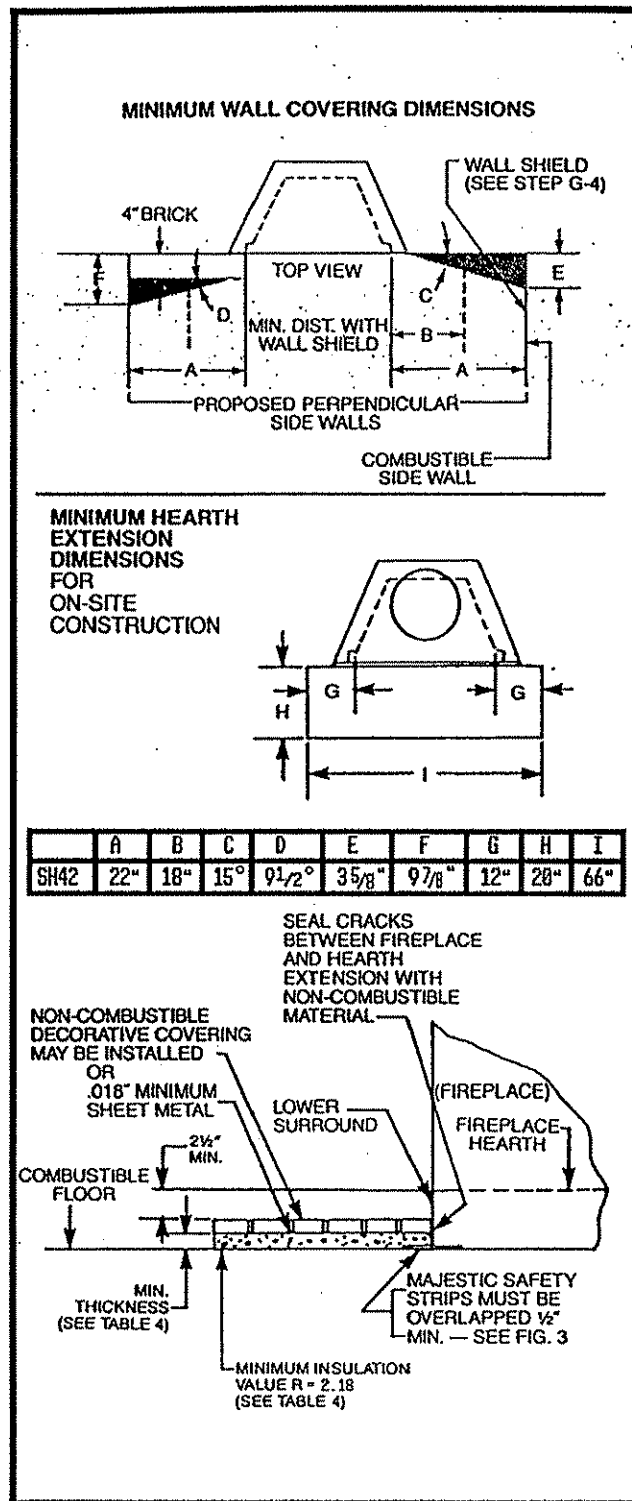

Fig. 23. Protection of adjacent combustible side walls and hearth extension dimensions.
A hearth extension is required to protect combustible floor construction in front of the fireplace. See Fig. 23 for minimum dimensions and mounting detail.
The hearth extension described in Fig. 23 must be constructed of a rigid insulation with a minimum (total)  $R_T$  value of 2.18. (See Table 4 for examples.) The overall height (above combustible floor), depth and width must be as indicated, with it centered to the fireplace opening. (See Fig. 23.)
The top of the insulation must be covered with a non-combustible decorative covering or a piece of .018" minimum sheet metal, to protect the hearth extension material. (See Fig. 23.)
Secure the hearth extension to the floor to prevent shifting, using trim molding or other similar means at the three (3) outer edges. Seal the crack between the fireplace hearth and the hearth extension with a non-combustible material. (See Figs. 23, 24 and 25.)
**WARNING: HEARTH EXTENSION MUST BE INSTALLED IN ACCORDANCE WITH FIGS. 23, 24 AND 25 .**